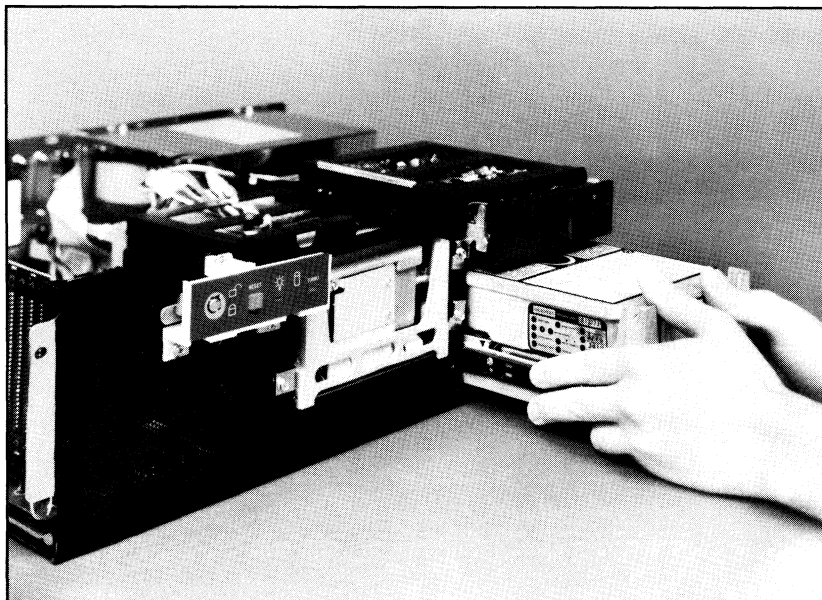

Figure 2-7. Mounting Location of an Optional Hard Disk Drive
Full-height drives are installed in the chassis central location and/or the middle and bottom right-hand half-height slots (see Figure 2-7). Half-height drives are installed in the right-hand half-height slots only.
5. Remove the mounting bracket on the left side of the highest available half-height drive slot (Figure 2-7).